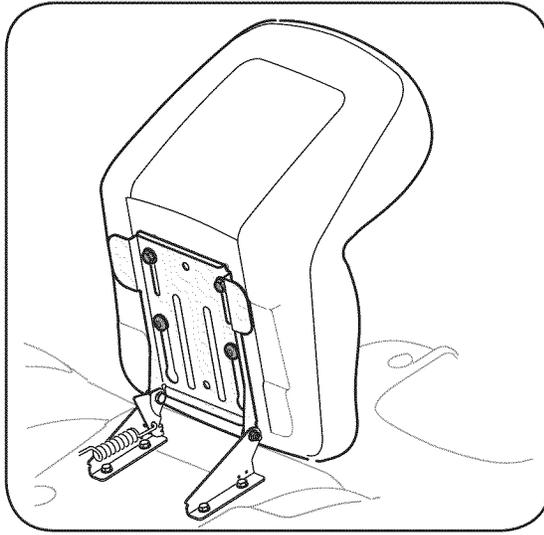
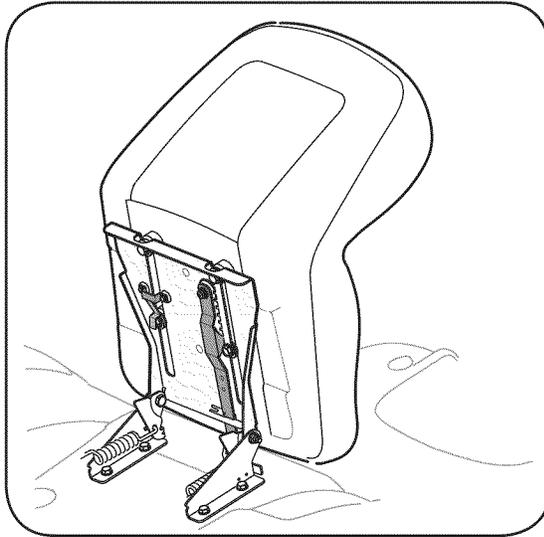
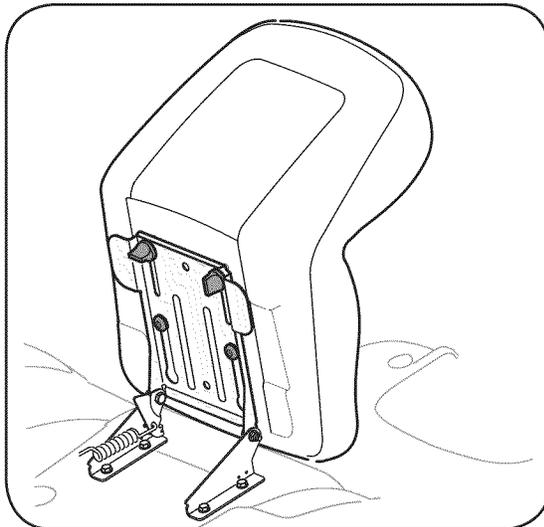

Figure 4
Figure 5
Figure 6
If the seat for your tractor did not come attached, refer to Figure 4, Figure 5, and Figure 6 to identify your tractor's seat style and follow the applicable instructions below to attach it.
1. Position the shoulder screws (found on the base of the seat) inside the slot openings in the seat pivot bracket. Figure 4.
3. Select desired position for the seat, and secure with the two hex screws removed earlier. See Figure 4.
**NOTE:** If your seat was shipped mounted backwards on the seat pivot bracket, pull out the tab found on the seat stop and hold it open while sliding the seat off the seat pivot bracket. See Figure 5.
2. Slide seat until front seat spacer engages the seat stop. See Figure 5.
1. Position the shoulder screws (found on the base of the seat) inside the slot openings in the seat pivot bracket. Figure 6.
3. Select desired position for the seat, and secure with the two knobs removed earlier. See Figure 6.